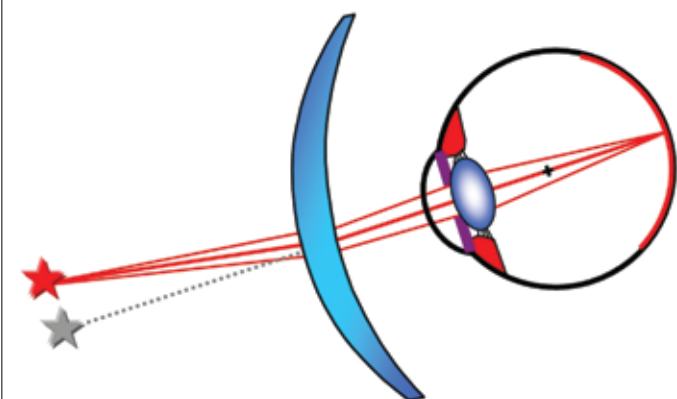

Figure 7 In static central vision, ray deviation makes objects 'appear' delocalised
- In static central vision, ray deviation makes objects 'appear' delocalised (Figure 7)